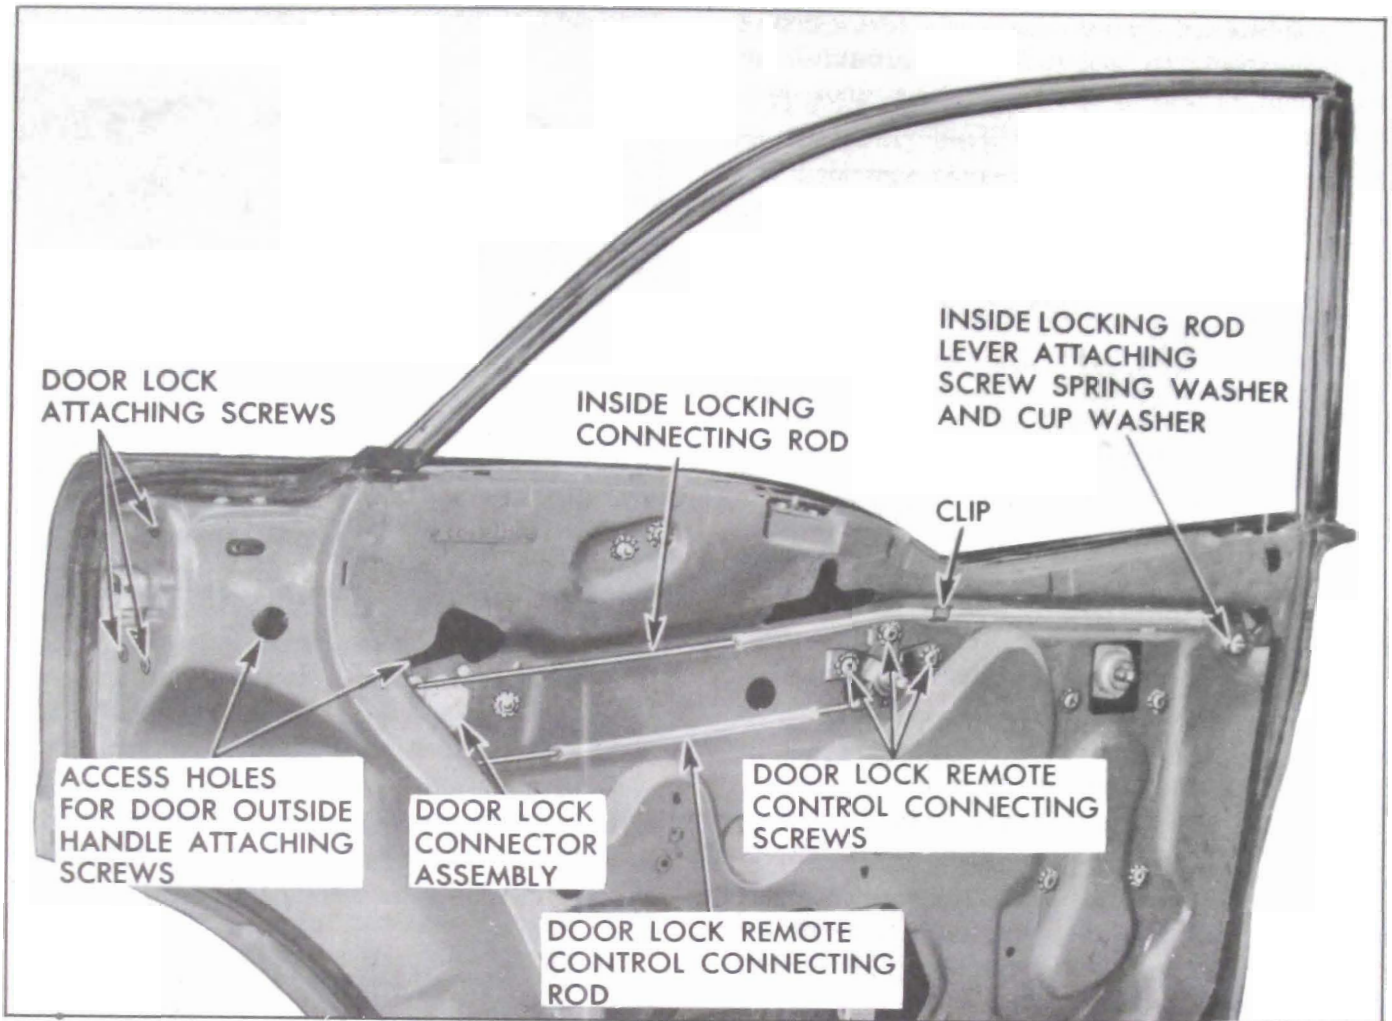

Figure 13-64—Rear Door Locking Mechanisms—Models 43 and 63
3. a. To remove remote control connecting rod on 43 and 63 rear doors, detach rod from clip on inner panel; then detach rod from door lock connector, Figure 13-64.
2. Loosen remote control attaching screws, Figure 13-64. Move remote control to forward position; then adjust remote control rearward sufficiently to take up slack in linkage. Check operation of door lock before re-sealing inner panel water deflector.
2. Remove inside locking rod lever attaching screw, Figure 13-64, and remove lever spring washer and cup washer. Detach inside locking connecting rod from clip on inner panel; then, detach lever from inside locking connecting rod and remove lever and inside locking rod from door.
2. Through access holes for door outside handle attaching screws. Figure 13-64 and 13-62, remove handle attaching screws; then remove handle and handle gaskets.